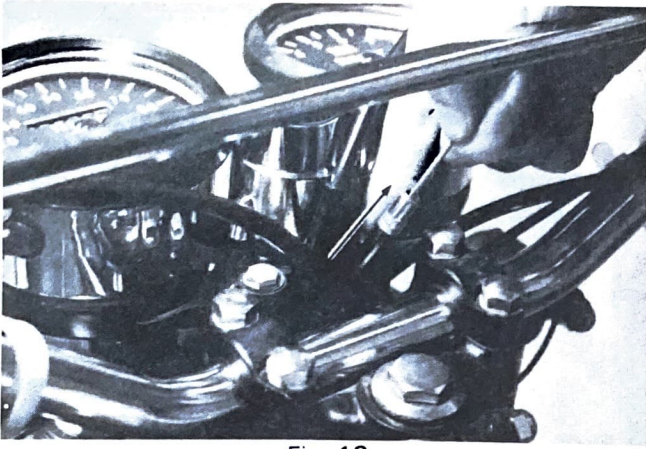

Fig. 18
14. Thread the front brake wire through the wire holder attached to the front fender and then pull upward the wire through the hole in the rear of the meter on the handle crown. (Fig. 18)